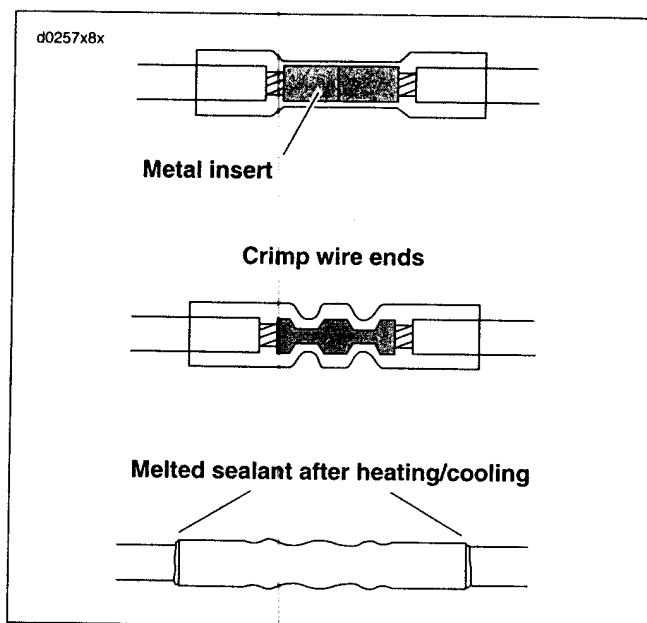

Figure B-19. Installing Sealed Butt Splice Connectors
6. See Figure B-19. Feed the wire into the butt splice connector until the stripped end contacts the wire stop inside the metal insert.